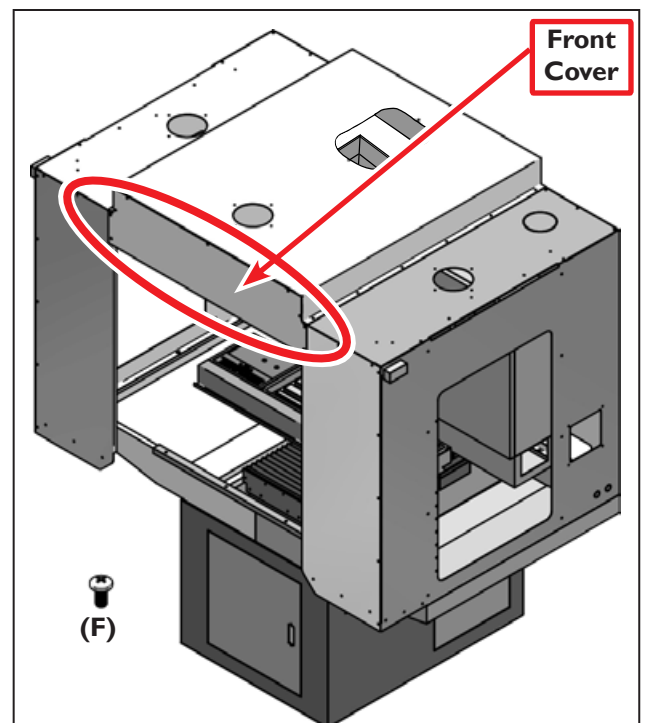

Figure 12
30. Place the Front Cover (E.18) onto the front (see **Figure 12**). Loosely fasten with (F) screws along the side and top edges of the front panel.